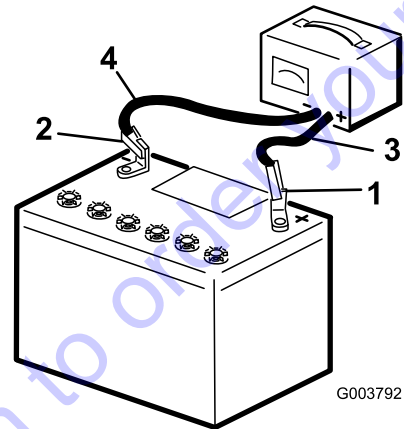

Figure 44
2. Charge the battery for 10 to 15 minutes at 25 to 30 A or 30 minutes at 4 to 6 A (Figure 44). Do not overcharge the battery.
3. When the battery is fully charged, unplug the charger from the electrical outlet, then disconnect the charger leads from the battery posts (Figure 44).